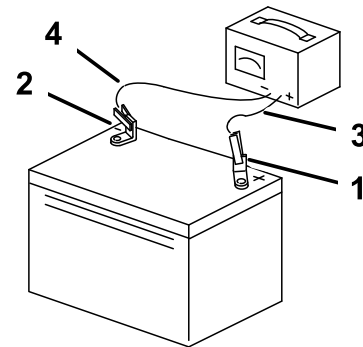

Figure 29
3. When the battery is fully charged, unplug the charger from the electrical outlet, then disconnect the charger leads from the battery posts (Figure 29).